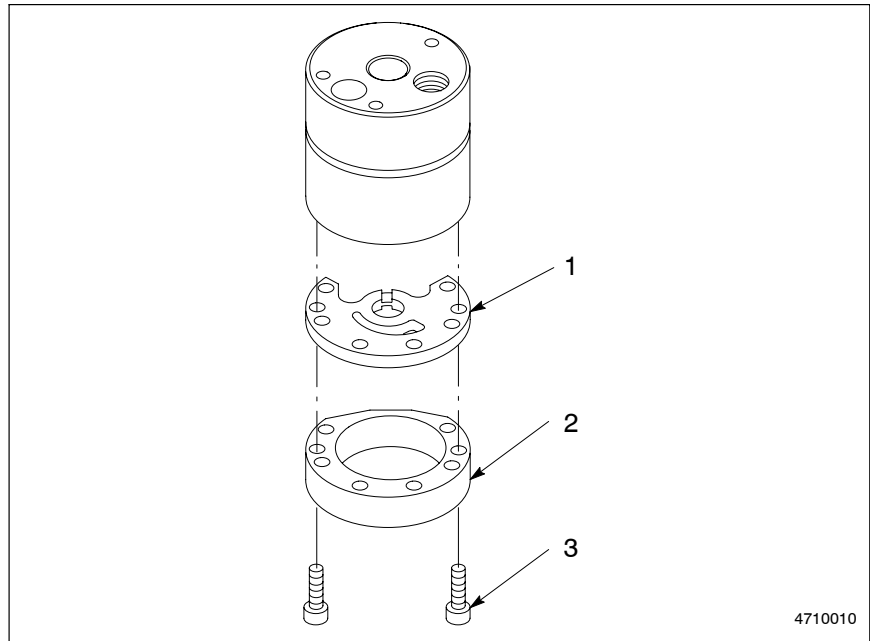

Fig. 7-29 Attaching the Upper Pump Plate and Gerotor Retainer
1. See Figure 7-29. Position the new upper pump plate (1) against the pump body.
2. Position the gerotor retainer (2) against the upper pump plate.